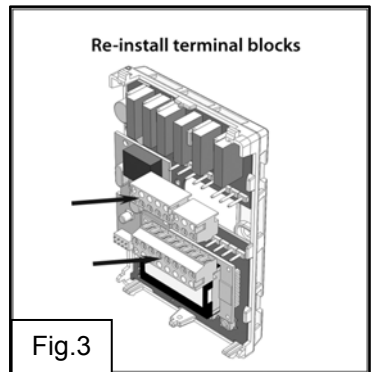

Fig.3
11. Gently push excess wiring back into hole (Fig. 3).
12. Re-Install wiring terminals in their correct locations (Fig. 3).